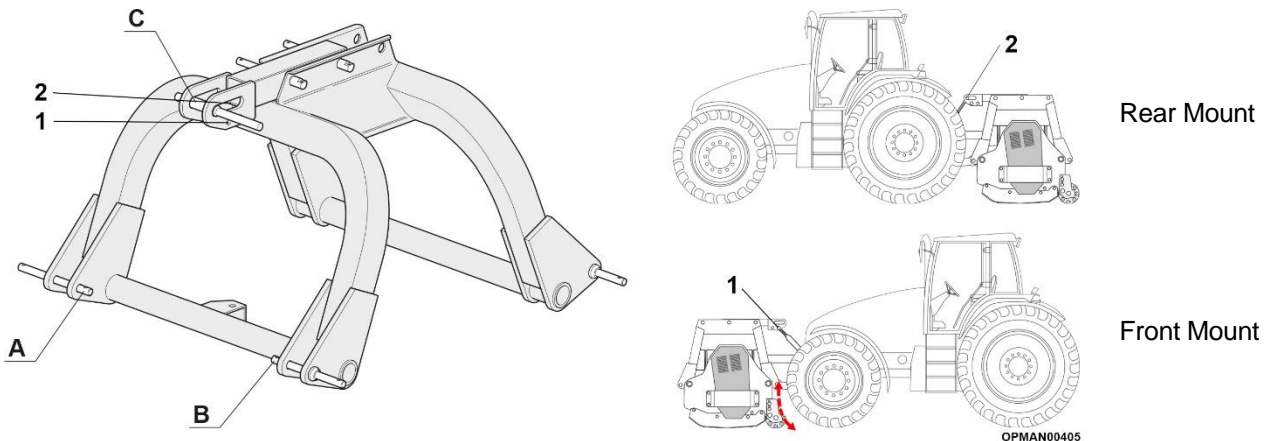

Figure 8
Proceed as follows for the coupling (see Figure 8):
- A fixed hole (ref Figure 8 (1)); which should be used for all transport purposes and front mount working purposes.
- A slotted hole (ref Figure 8 (2)); which should be used for rear mount working purposes.
The fixed hole (ref Figure 8 (1)) should be used during transport purposes, when the machine is out of work and is required to be lifted off the ground. The fixed hole ensures the machine remains as stationary as and will not move when it's carried by the tractor off the ground.
The fixed hole (ref Figure 8 (1)) should be used when the machine is operating at work. It is important that the **front linkage of the carrying tractor is put into float** to allow the machine to follow ground contours, giving better operation and finish of the cut material.